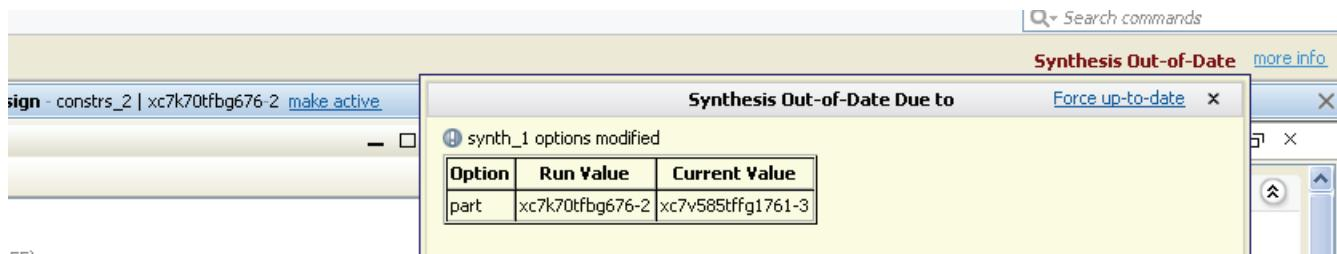

Figure 2-15: Design Out-of-Date and Reload Banner
As source files, netlists, or implementation results are updated, an “out-of-date” message is displayed at the right side of the Design View banner of an open Synthesized Design or Implemented Design to indicate that the run is out of date, as shown in Figure 2-15. Click the **more info** link to display what aspects of the design are out of date.
- **Force up-to-date:** Select the **Force up-to-date** link in the “Out-of-Date Due to” window that is opened when you click **more info** as shown in Figure 2-15.